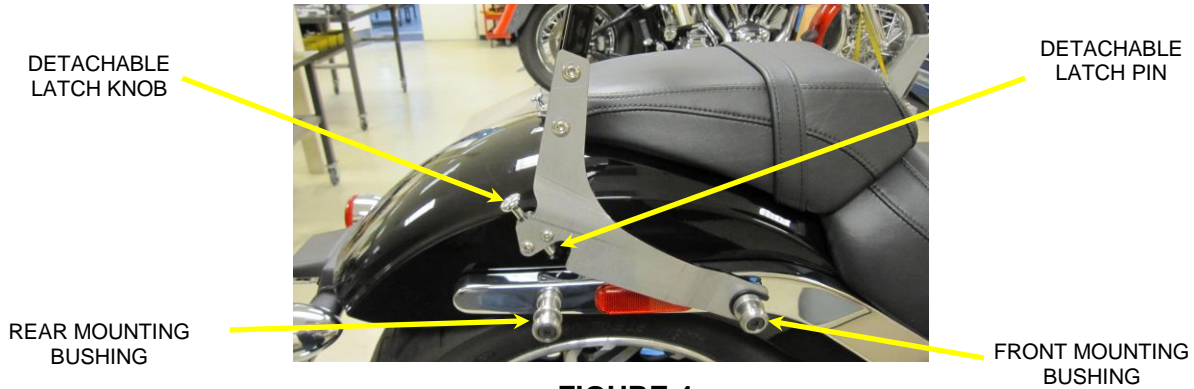

FIGURE 4
7. Install the sissy bar onto the bike by first inserting the front portions of the side brackets on to the front mounting bushings on the frame rails. Make sure the sissy bar is seated all the way onto the mounting bushings. See **FIGURE 4**.
8. Slowly rotate the sissy bar downward so the rear portions of the brackets slip over the rear mounting bushings. See **FIGURE 4**.